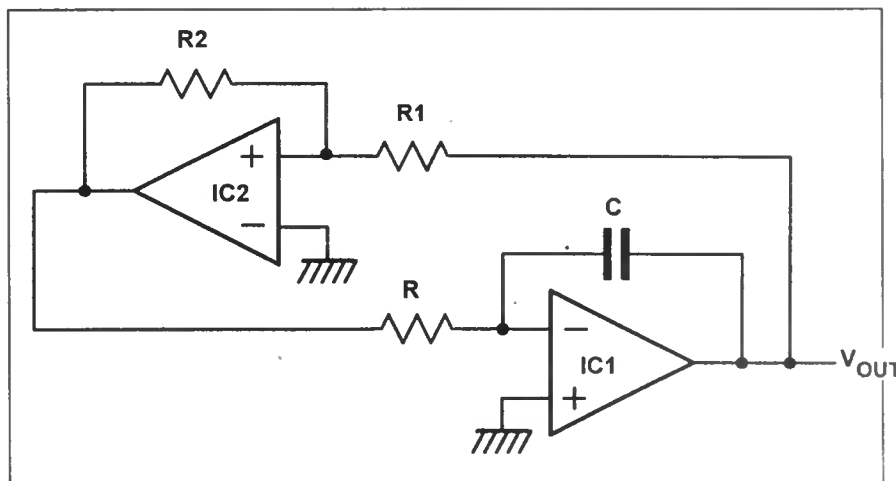

Fig. 6.11 Two-stage astable oscillator using operational amplifiers.
The circuit diagram of an alternative form of astable oscillator is shown in Fig. 6.11. This oscillator is ideal for producing a triangular wave output. IC1 forms an integrating stage whilst IC2 is connected with positive feedback to ensure that oscillation takes place.
3. Use the oscilloscope to accurately measure the periodic time of the output waveform. Record this together with the value of resistance (R in Fig. 6.11) in Table 6.2.